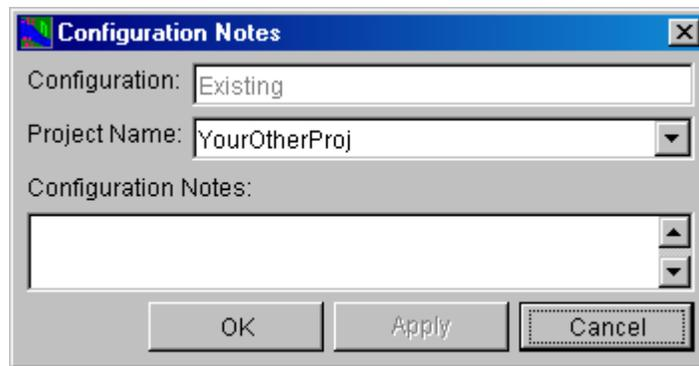

Figure 6.25 Configuration Notes - “Other” Projects
2. From the shortcut menu, select **Configuration Notes**. This command opens a dialog box (Figure 6.25) for entering text information about an Other Project that is specific to the configuration.